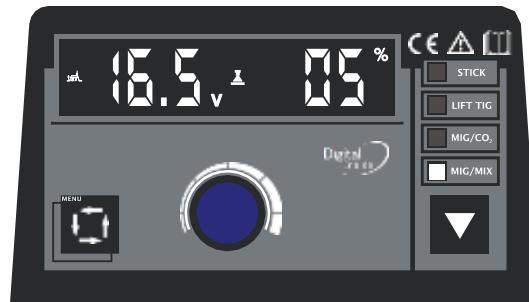

Fig. 5 Fine adjustment of preset range of voltage under MIG mode
- c) Press the 【Menu button】 for the 1st time, the 【Main display】 shows the fine adjusting range of preset welding voltage. Turn the 【Data adjusting knob】 to set the range from -20% to +20% as Fig.5.